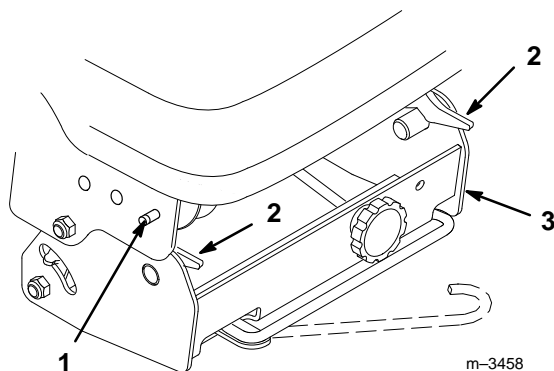

Figure 24
11. If you wish to remove the pulley box, push the latch release buttons on the front Attach-A-Matic™ (Fig. 24) and raise the latch levers to open the latches holding the pulley box. Remove the pulley box.